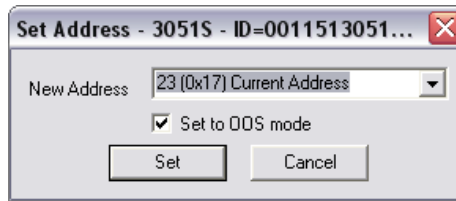

Figure 2-3. The Set Address Box
- In the **New Address** field, select the desired address from the drop-down list, as shown in Figure 2-3.